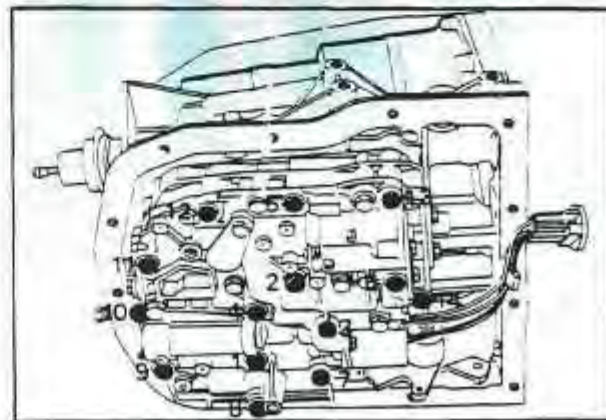

Fig. 18 VALVE BODY ATTACHING BOLTS-SEQUENCE
- Remove the three (3) bolts securing the fluid pick-up screen and gasket and remove.
- Remove the valve body attaching bolts only. *Fig. 18*
2. Fit the valve body assembly to the transmission and install the remaining bolts. Torque tighten the bolts in the sequence shown. *Fig. 18*